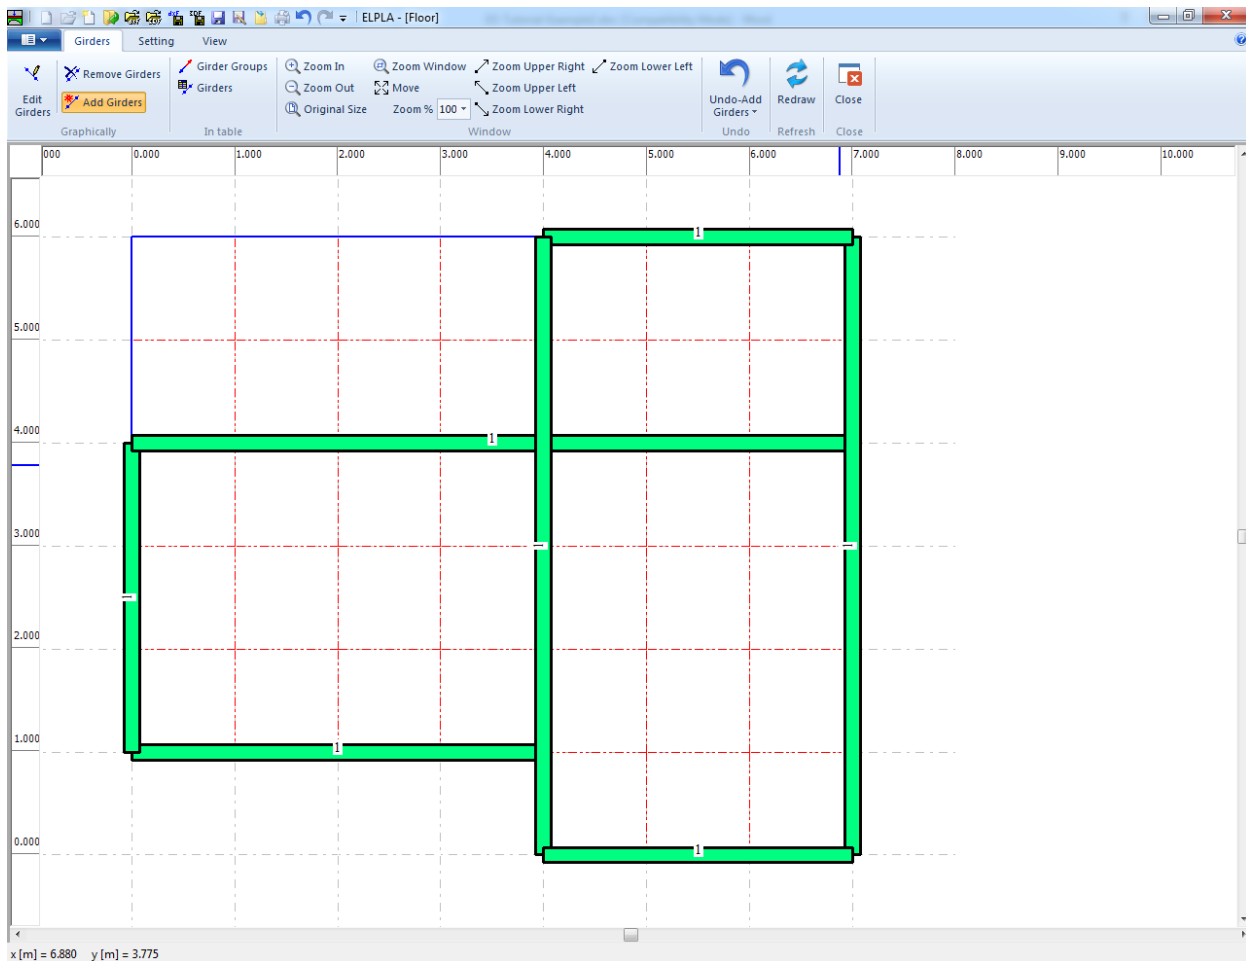

Figure 2.19 Girders
Repeat the previous steps to add the remaining girders on the net. After you have completed the definition of all girders, the screen should look like the following Figure 2.19.
- Choose "Save" command from "File" menu in Figure 2.19 to save the data of girders
- Choose "Close" command from "File" menu in Figure 2.19 to close the "Girders" Window and return to ELPLA main window.